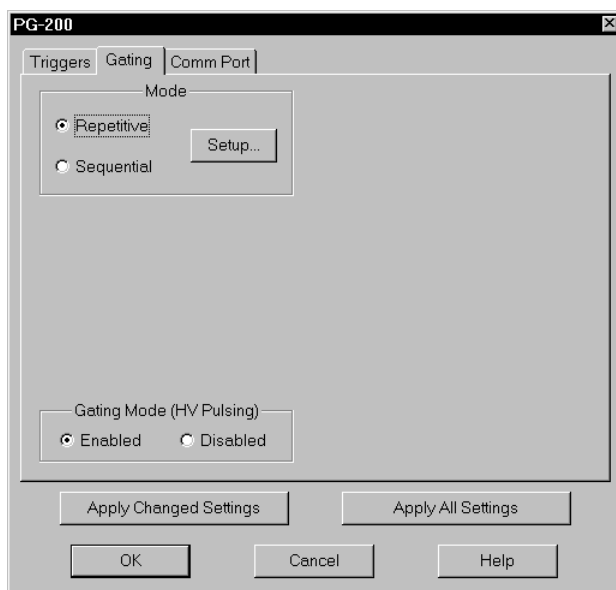

Figure 156. PG200 Gating tab page
4. Click on the **Gating** tab (Figure 156).